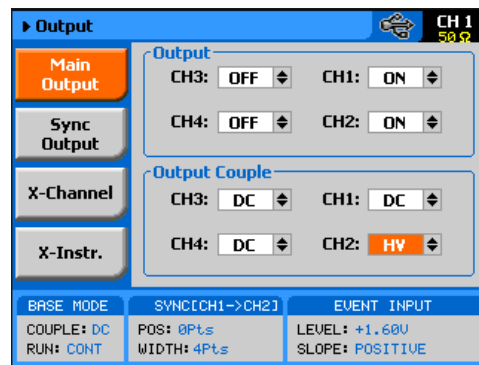

Figure 3-6, Selecting an Output Couple Path
You can modify the output couple path (see Figure 3-6) using the following procedure. Note that each channel can be programmed to a different setting.
1. Press the Output button in the Control group buttons. Observe the Output display, as appears in Figure 3-6.